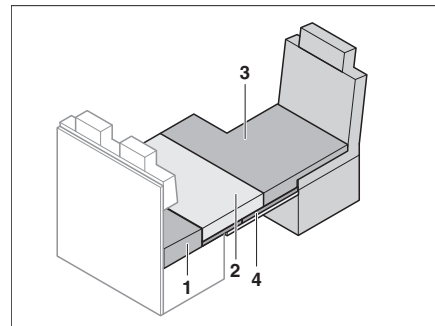

Fig. 195 After conversion
- Lay the additional cushion (Fig. 195,3) on the driver's seat.
- Lay the seat cushion (Fig. 195,2) on the guest bed foundation.
- Lay the back cushion (Fig. 195,1) between the seat cushion and the rear wall. Observe the wedged form.